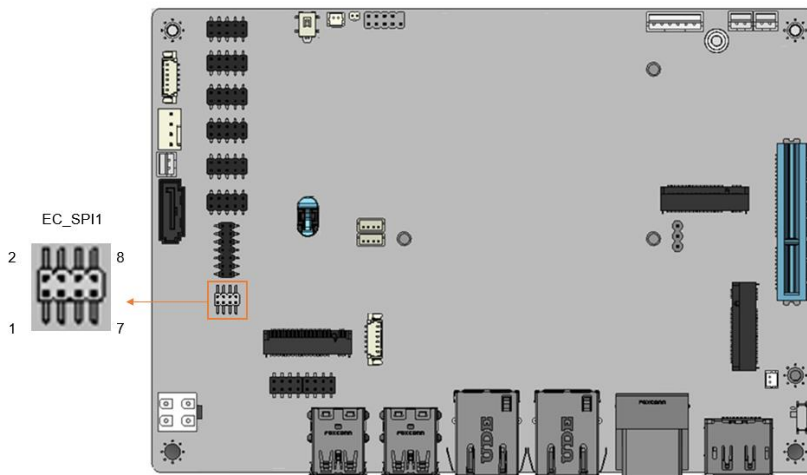

Figure 3-26: Flash EC ROM Connector Location
- CN Location:** See **Figure 3-26**